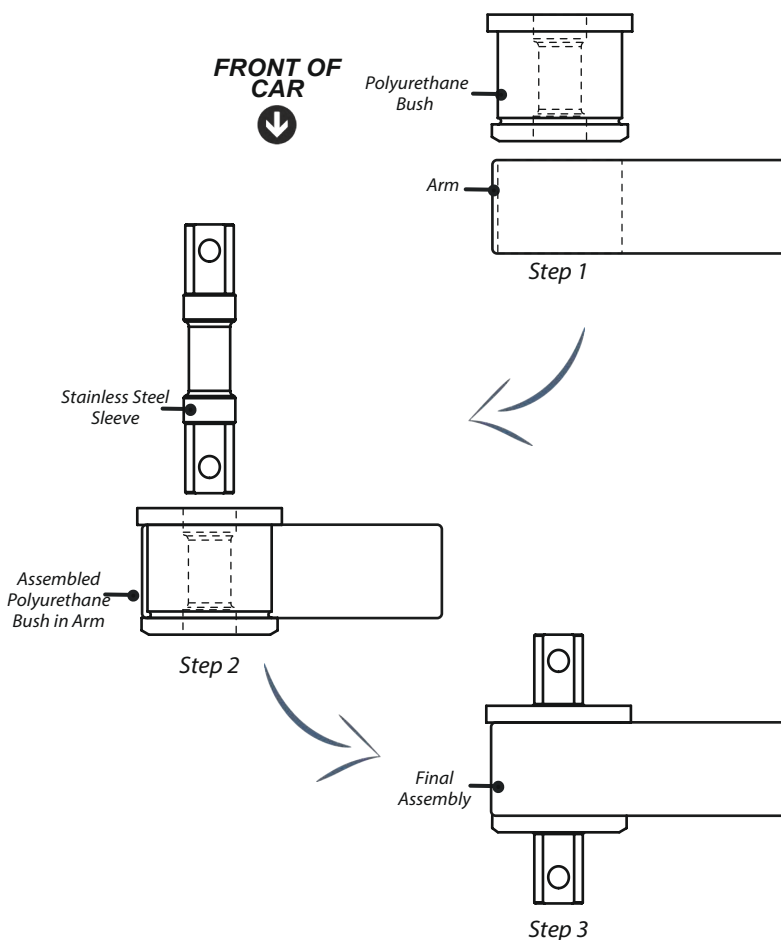

Figure 1 - showing the sequential steps in assembling this part in the arm
3. Push in the new polyurethane bush with the chamfered edge getting pushed in first, from the front of the car, as shown in step 1 in Figure 1.
5. Push the sleeve into the bore of the polyurethane bush so that it sits flush inside, as shown in step 2 in Figure 1.